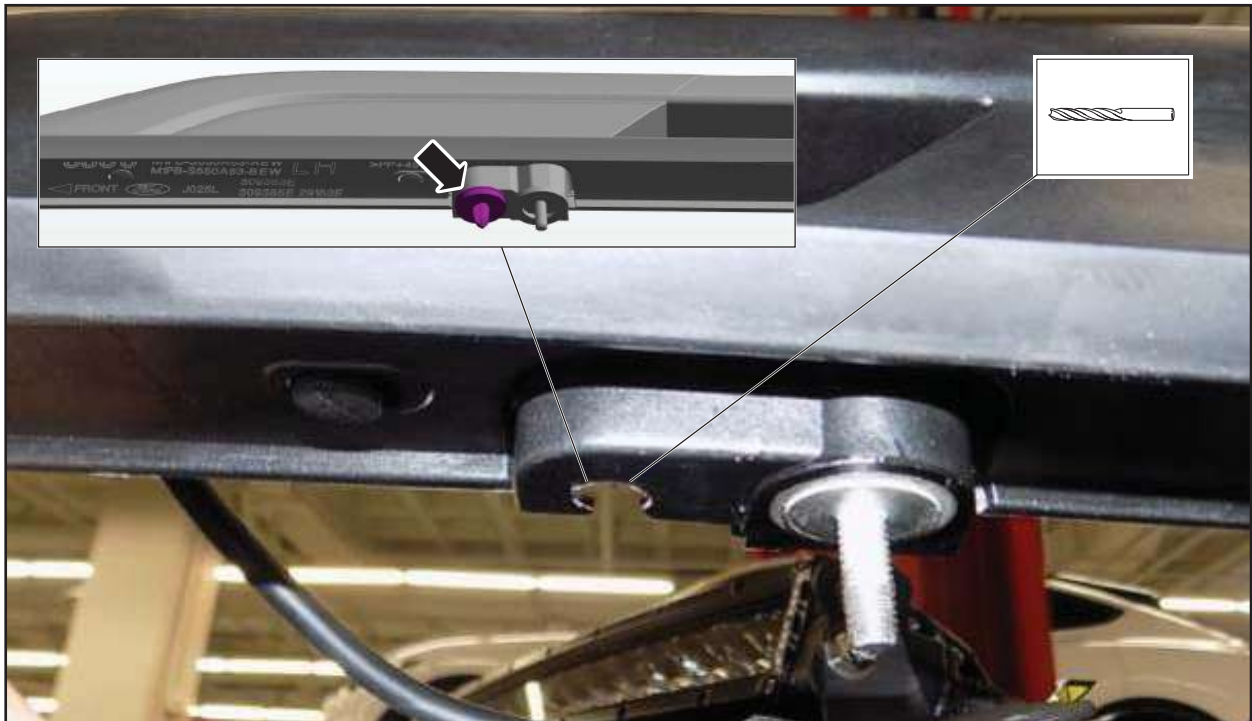

FIGURE 36
36. Remove locating clip and enlarge hole using a 3/8 in (9.5 mm) drill bit. See Figure 36.